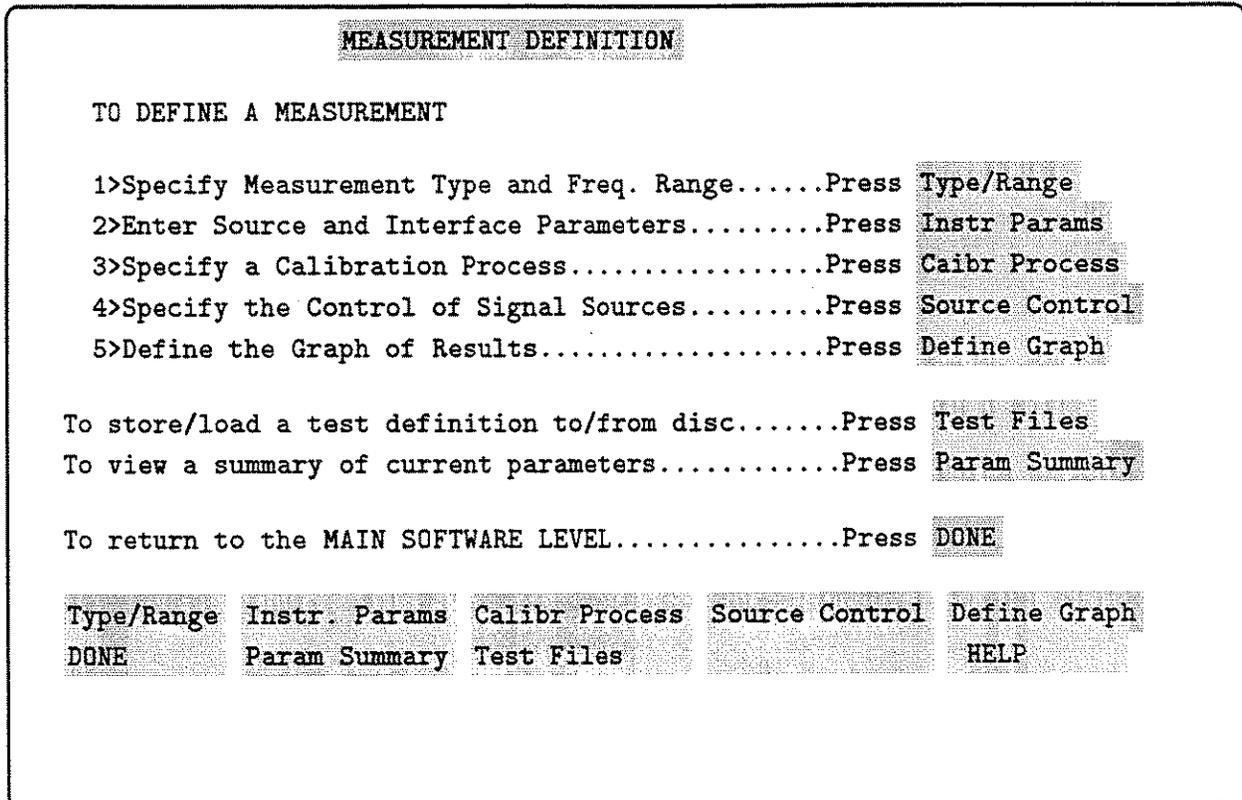

Figure 6-12. Measurement Definition Menu
- On the HP 3048A press the **Define Msrmt** softkey to obtain the Measurement Definition menu as in Figure 6-12.